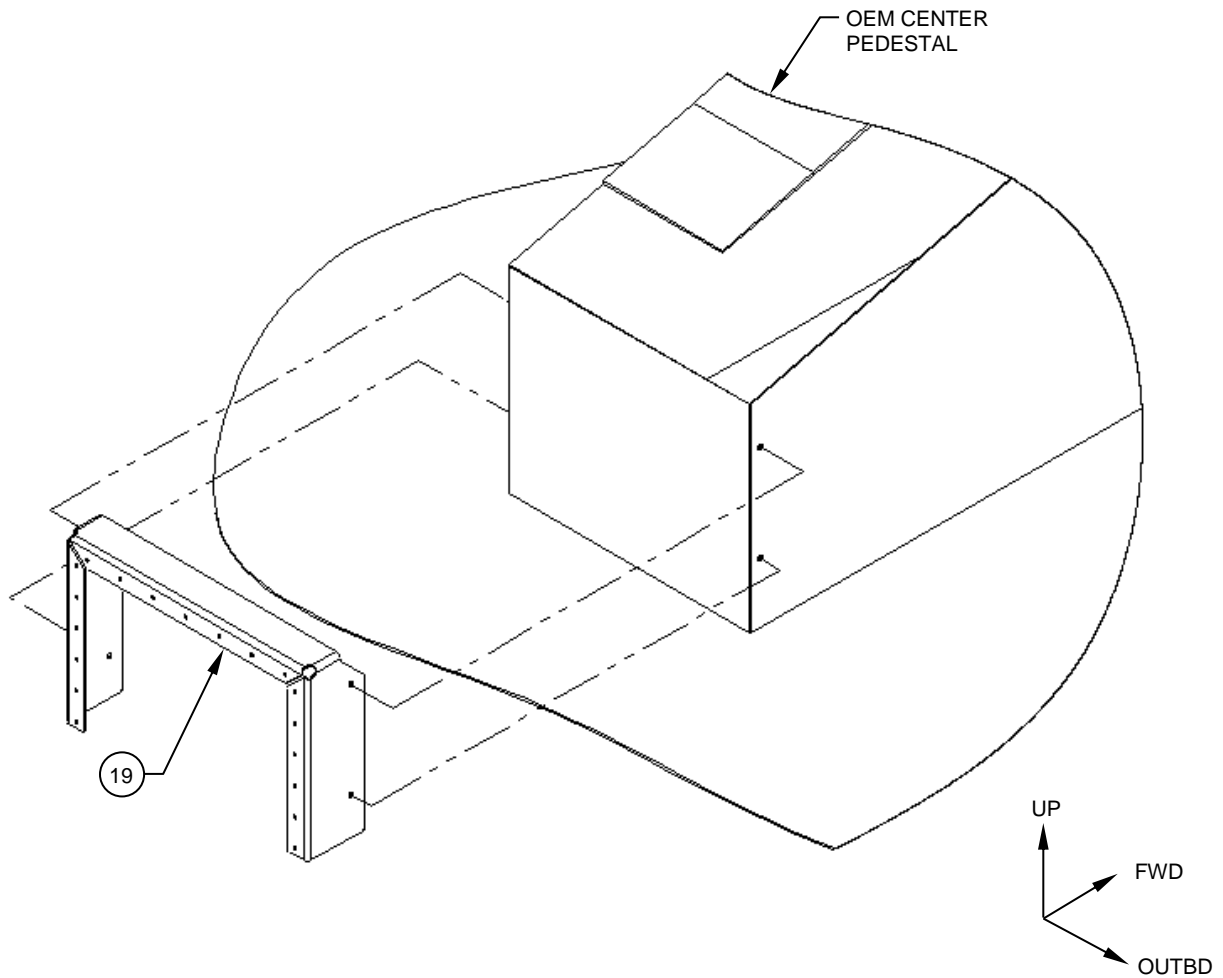

Figure 2
1. Gain access to the OEM center pedestal located on the floor of the aircraft. Reference Figure 2.
3. Back drill 4x permanent holes from OEM center pedestal nut plates into the Pedestal Attachment Flange, Detail (Item 19). Reference Figure 2.